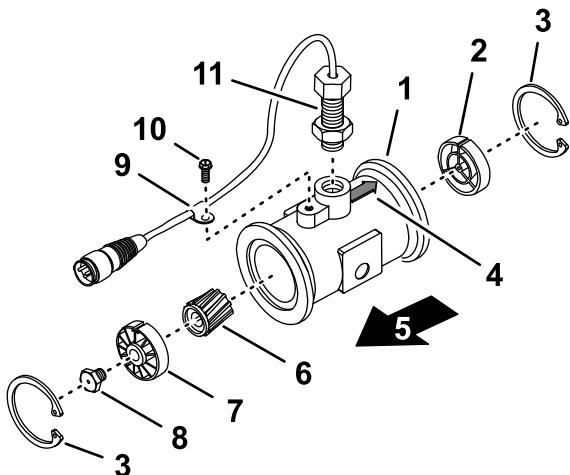

Figure 116
3. Remove the retainer ring on the upstream side (Figure 116).